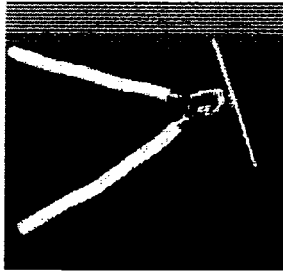

Fig. 3
11. Locate the new red coated brake wire in the parts kit. Remove approx. six (6) inches of the red coating to expose the black and white wires inside.
12. Strip approx. one (1) inch of insulation off each of the wires (black and white).
13. Strip approx. one (1) inch of insulation off the brake magnet wires (black) extending from the brake drum.
14. Attach one brake magnet wire and the black wire from the red coated brake wire by twisting the exposed wire ends together. Slide a crimp sleeve connector over the end of the wires and crimp the sleeve using the proper crimping tool. Trim off the wire strands that are above the top of the crimp sleeve connector. (Fig. 3)
25. Strip approx. six (6) inches of red coating from the new red coated brake wire. This will expose a black and white wire from the new red coated brake wires. The end of the red coated brake wire extending from the pigtail wire should have the black and white wires exposed. At this point, you should have approx. six (6) inches of two (2) black and two (2) white wires to work with for the following steps.
26. Strip approx. one (1) inch of insulation off each of the four (4) wires (two (2) black and two (2) white).
27. Strip approx. one (1) inch of insulation off the two (2) brake magnet wires (black) extending from the brake drum.
28. Attach one (1) brake magnet wire and the two (2) black wires (one (1) from each of the red coated brake wires) by twisting the exposed wire ends together. Slide a crimp sleeve connector over the end of the wires and crimp the sleeve using the proper crimping tool. Trim off the wire strands that are above the top of the crimp sleeve connector. (Fig. 3)